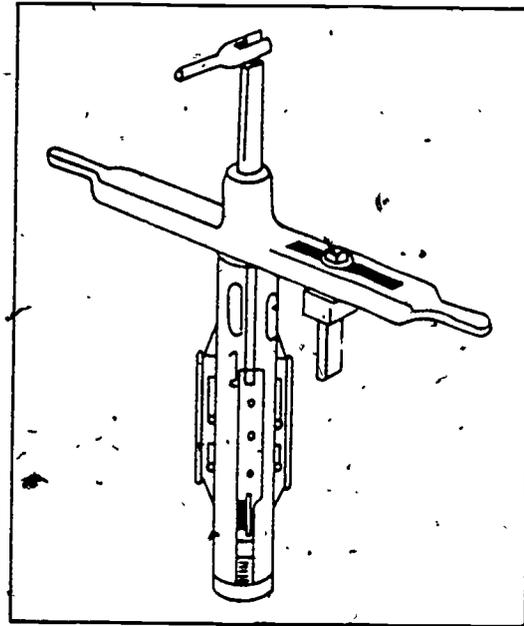

Figure 3-56. Fiber pipe tapering tool.
**Fiber pipe tapering tool.** The fiber pipe tapering tool, shown in figure 3-56, is used to cut a 2° taper on fiber pipe for making joints. It is designed with a center guide, which is fitted inside the pipe end to be tapered.